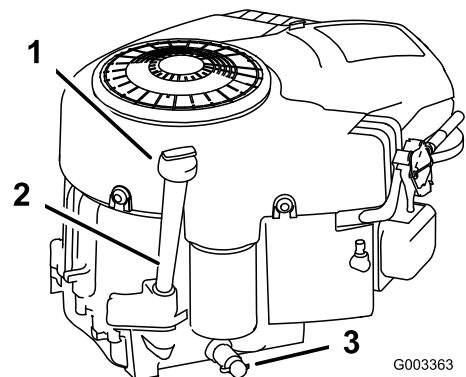

Figure 24
3. Clean around the oil dipstick (Figure 24) so that dirt cannot fall into the fill hole and damage the engine.
8. Clean around the oil dipstick and unscrew the cap (Figure 24).
9. Slowly pour approximately 80% of the specified oil into the filler tube (Figure 24).